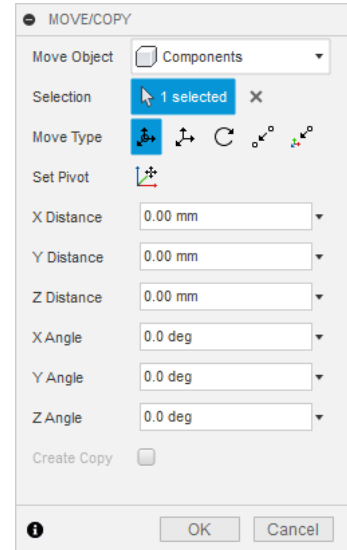

Fig. 2
Step 4. Click OK in Move/Copy Panel, Fig. 2.